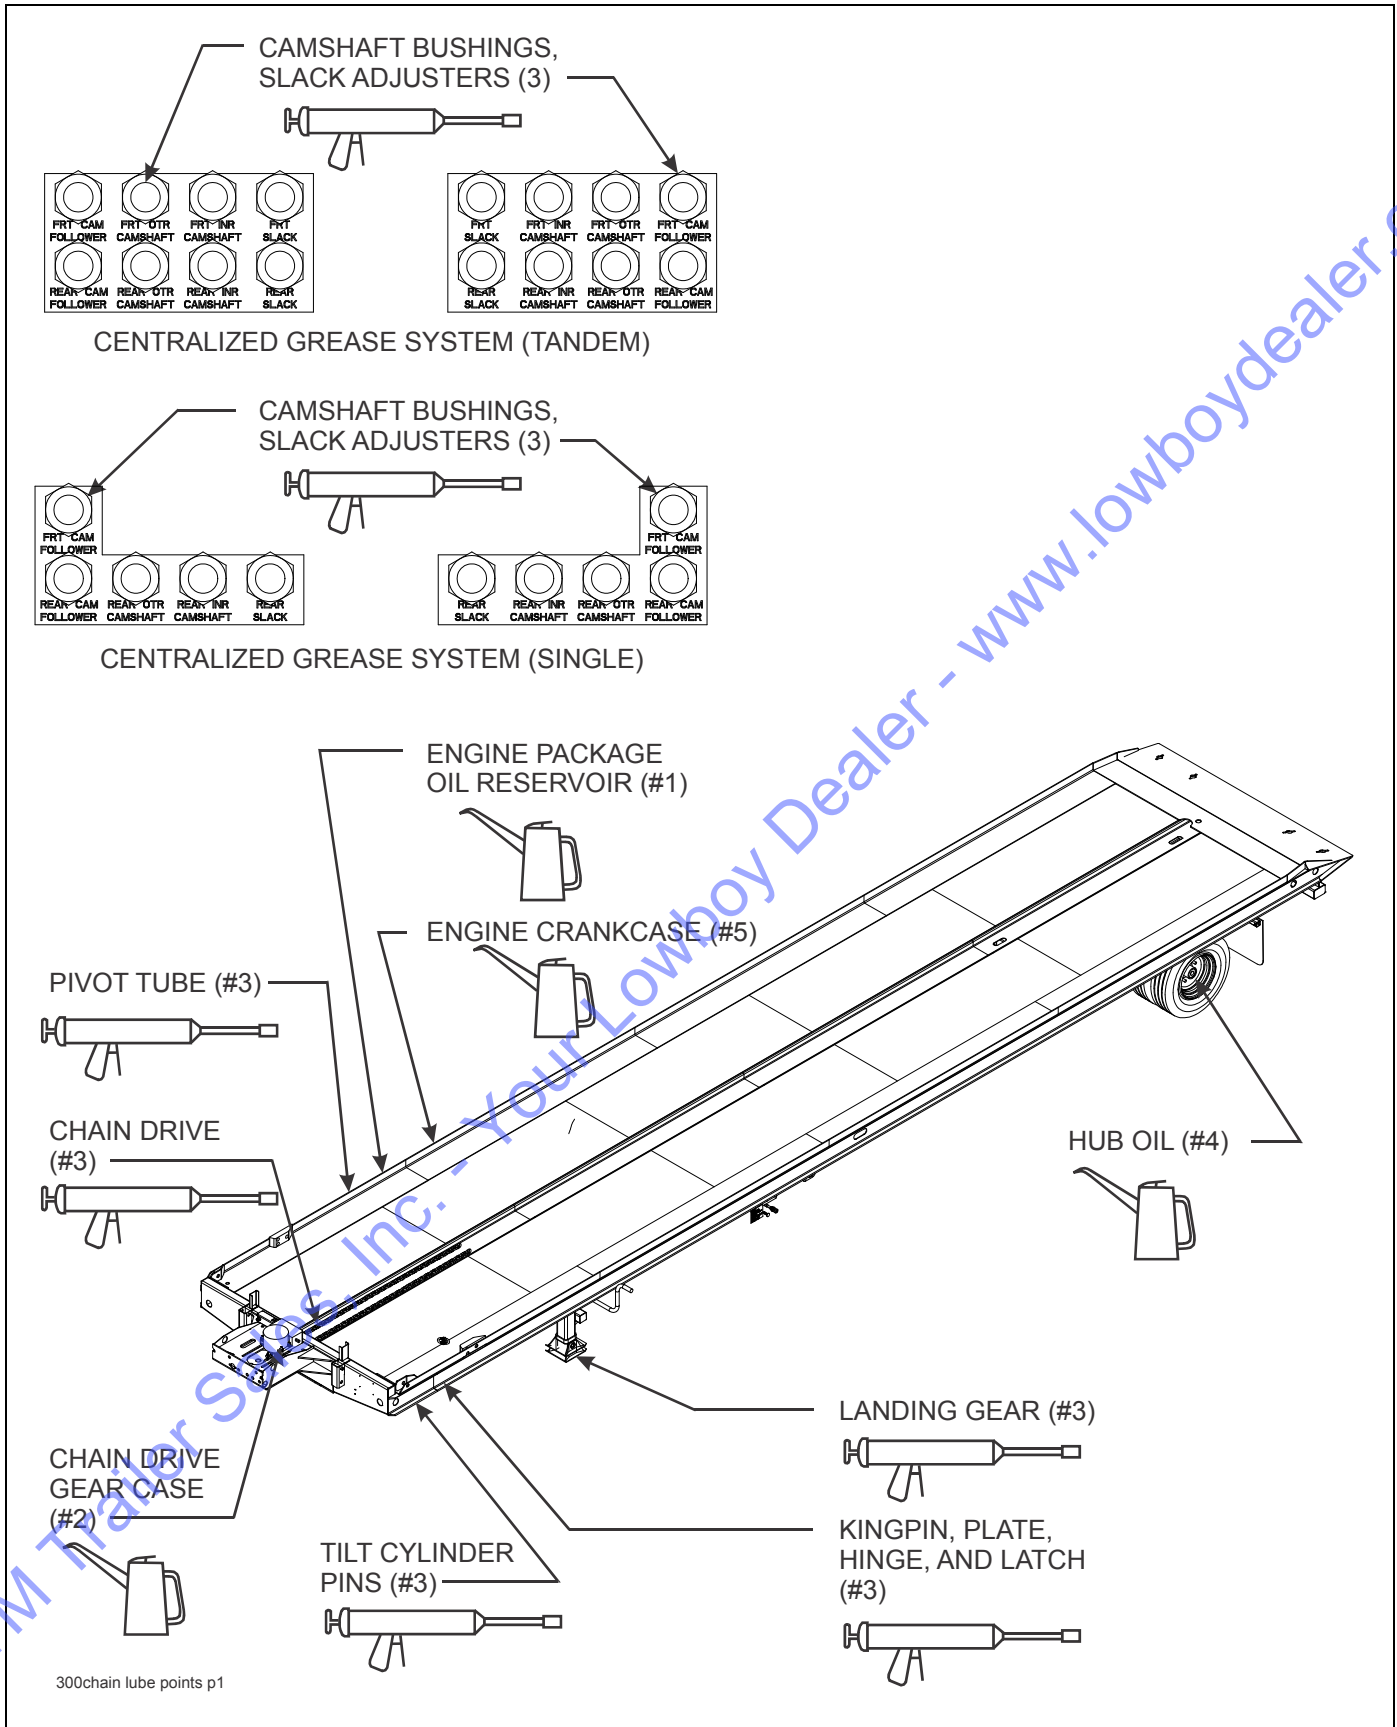

Figure 4-1: Lubrication Points
**Figure 4-1 and Table 4-1** details lubrication points and intervals, method of application, and lubricant required, and illustrates the location of each part to be lubricated. During inspections of the semitrailer, if lubricants are found to be fouled with dirt or sand, those parts should be cleaned with paint thinner, dried, and relubricated immediately. Dirt in a lubricant forms an abrasive compound that will wear parts rapidly.